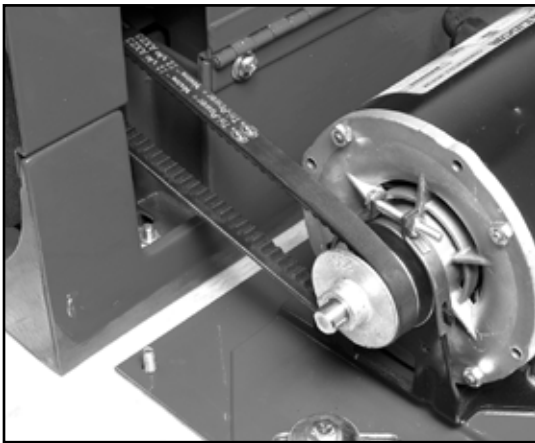

Fig 29 - Remove belt guard from motor mount
1. Remove the belt guard from motor mount (Fig 29).